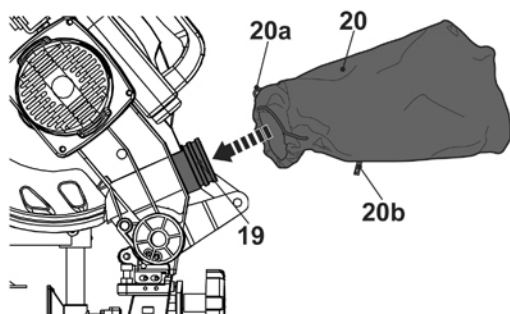

Fig. 4
- > Attach the dust collection bag (20) onto the dust extraction outlet (19) (Fig. 4). Ensure the fastening clamp (20a) of the dust collection bag sits properly around the dust extraction outlet.